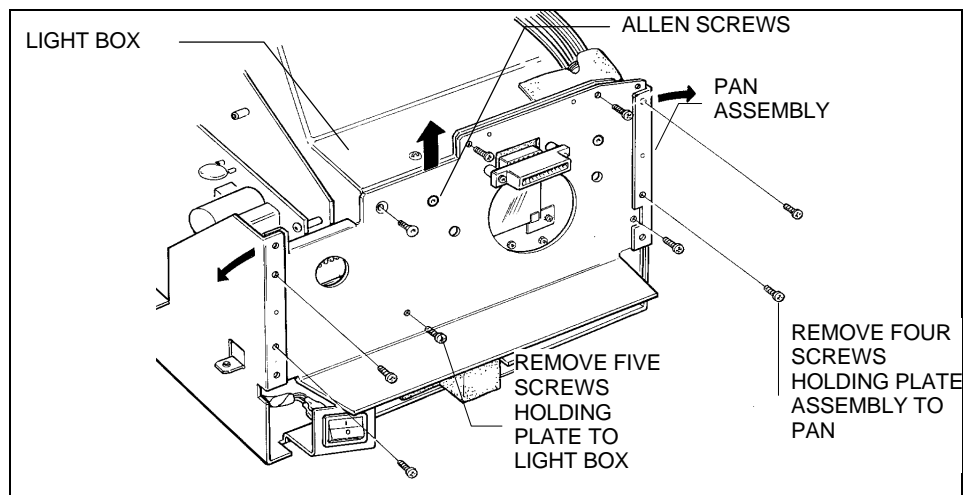

Figure 6-6. Removing the camera plate assembly
2. Identify and remove four screws securing the Camera Plate Assembly to the Pan Assembly. (Figure 6-6)